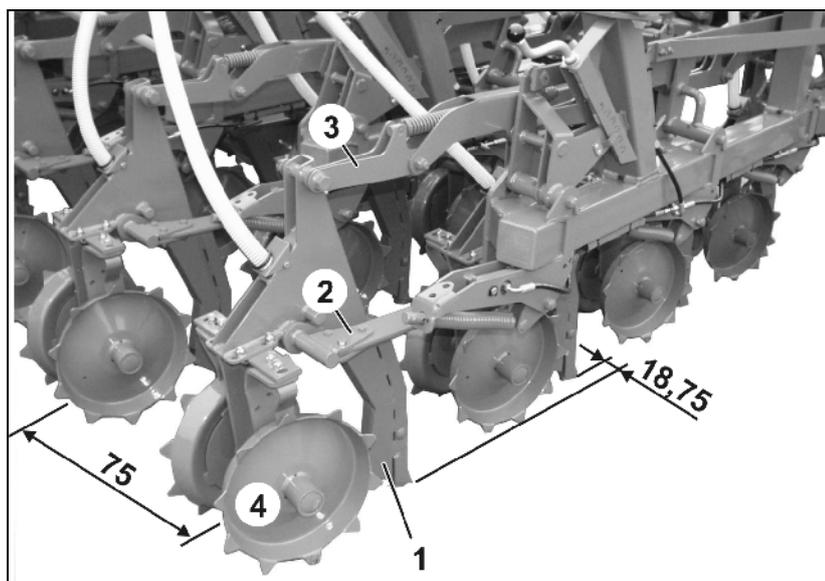

Fig. 55
The chisels (Fig. 55/1) are arranged in staggered 4 rows behind each other. This results in a coulters spacing of 75 cm between the neighbouring coulters. The row spacing is 18.75 cm.
- a horizontal avoidance facility thanks to the spring steel lower link (Fig. 55/2).
- a vertical avoidance facility thanks to the upper link which buckles against spring pressure (Fig. 55/3).
The placement depth of the seed is determined by the depth control of the chisel (Fig. 55/1). This depth control is carried out by the double rollers (Fig. 55/4) fitted behind the chisel coulters, which have been designed as double rollers.